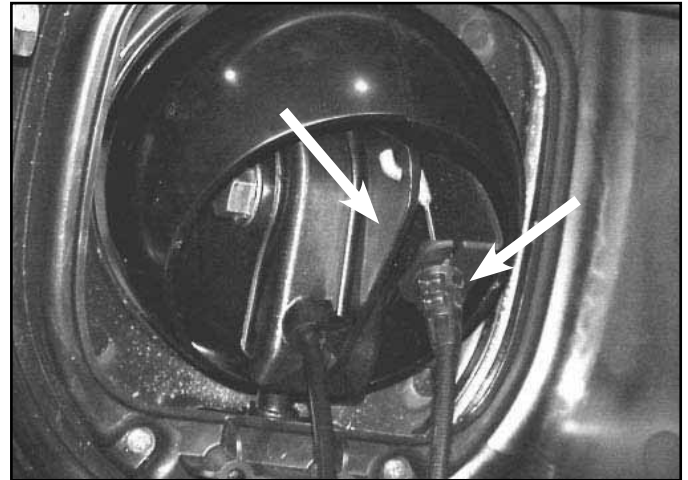

Fig 035
1. To remove the deflector cable, depress the tabs that retain the cable in the bracket, under the control panel. Disconnect the Z bend on the end (Fig. 035).